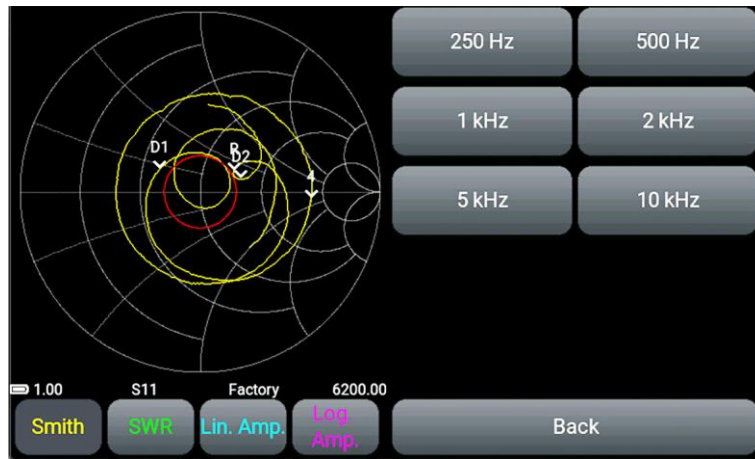

Figure 9.4 - Bandwidth selection in the BW menu
9.2.5. In the **BW** menu (figure 9.4), the bandwidth of the digital IF filter is selected. The narrower the bandwidth of the digital filter, the higher the signal-to-noise ratio and, consequently, the higher the measurement accuracy. As the bandwidth decreases, the scan time increases.